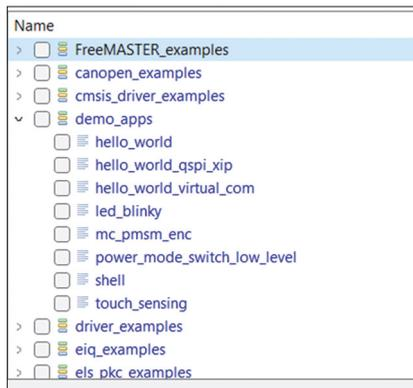

Figure 2.10: Expand demo_apps.
- Click to expand **demo_apps** (Figure 2.10).